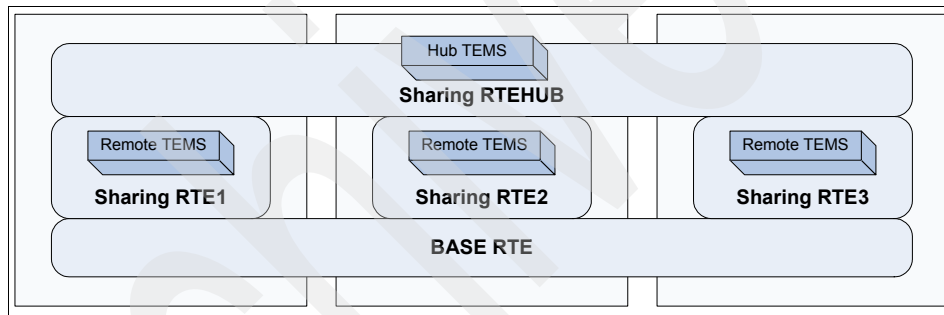

Figure 3-2 Base and sharing RTEs with separate RTE for hub Tivoli Enterprise Monitoring Server
- Another approach that we consider is to have a separate RTE to act as the hub Tivoli Enterprise Monitoring Server, while each sysplex member uses a separate sharing RTE containing the remote Tivoli Enterprise Monitoring Server (Figure 3-2). This configuration is useful for creating a moveable hub Tivoli Enterprise Monitoring Server.